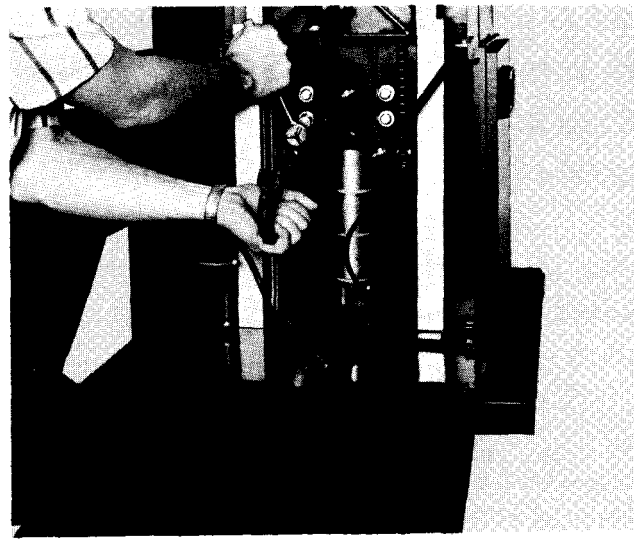

Fig. 31
- 4) Pry up firmly and while prying up, tighten 4 bolts to hold chain in position. (See Fig. 31). The tension should be equal in both chains. The chain should not be drum tight, but with little spring back.